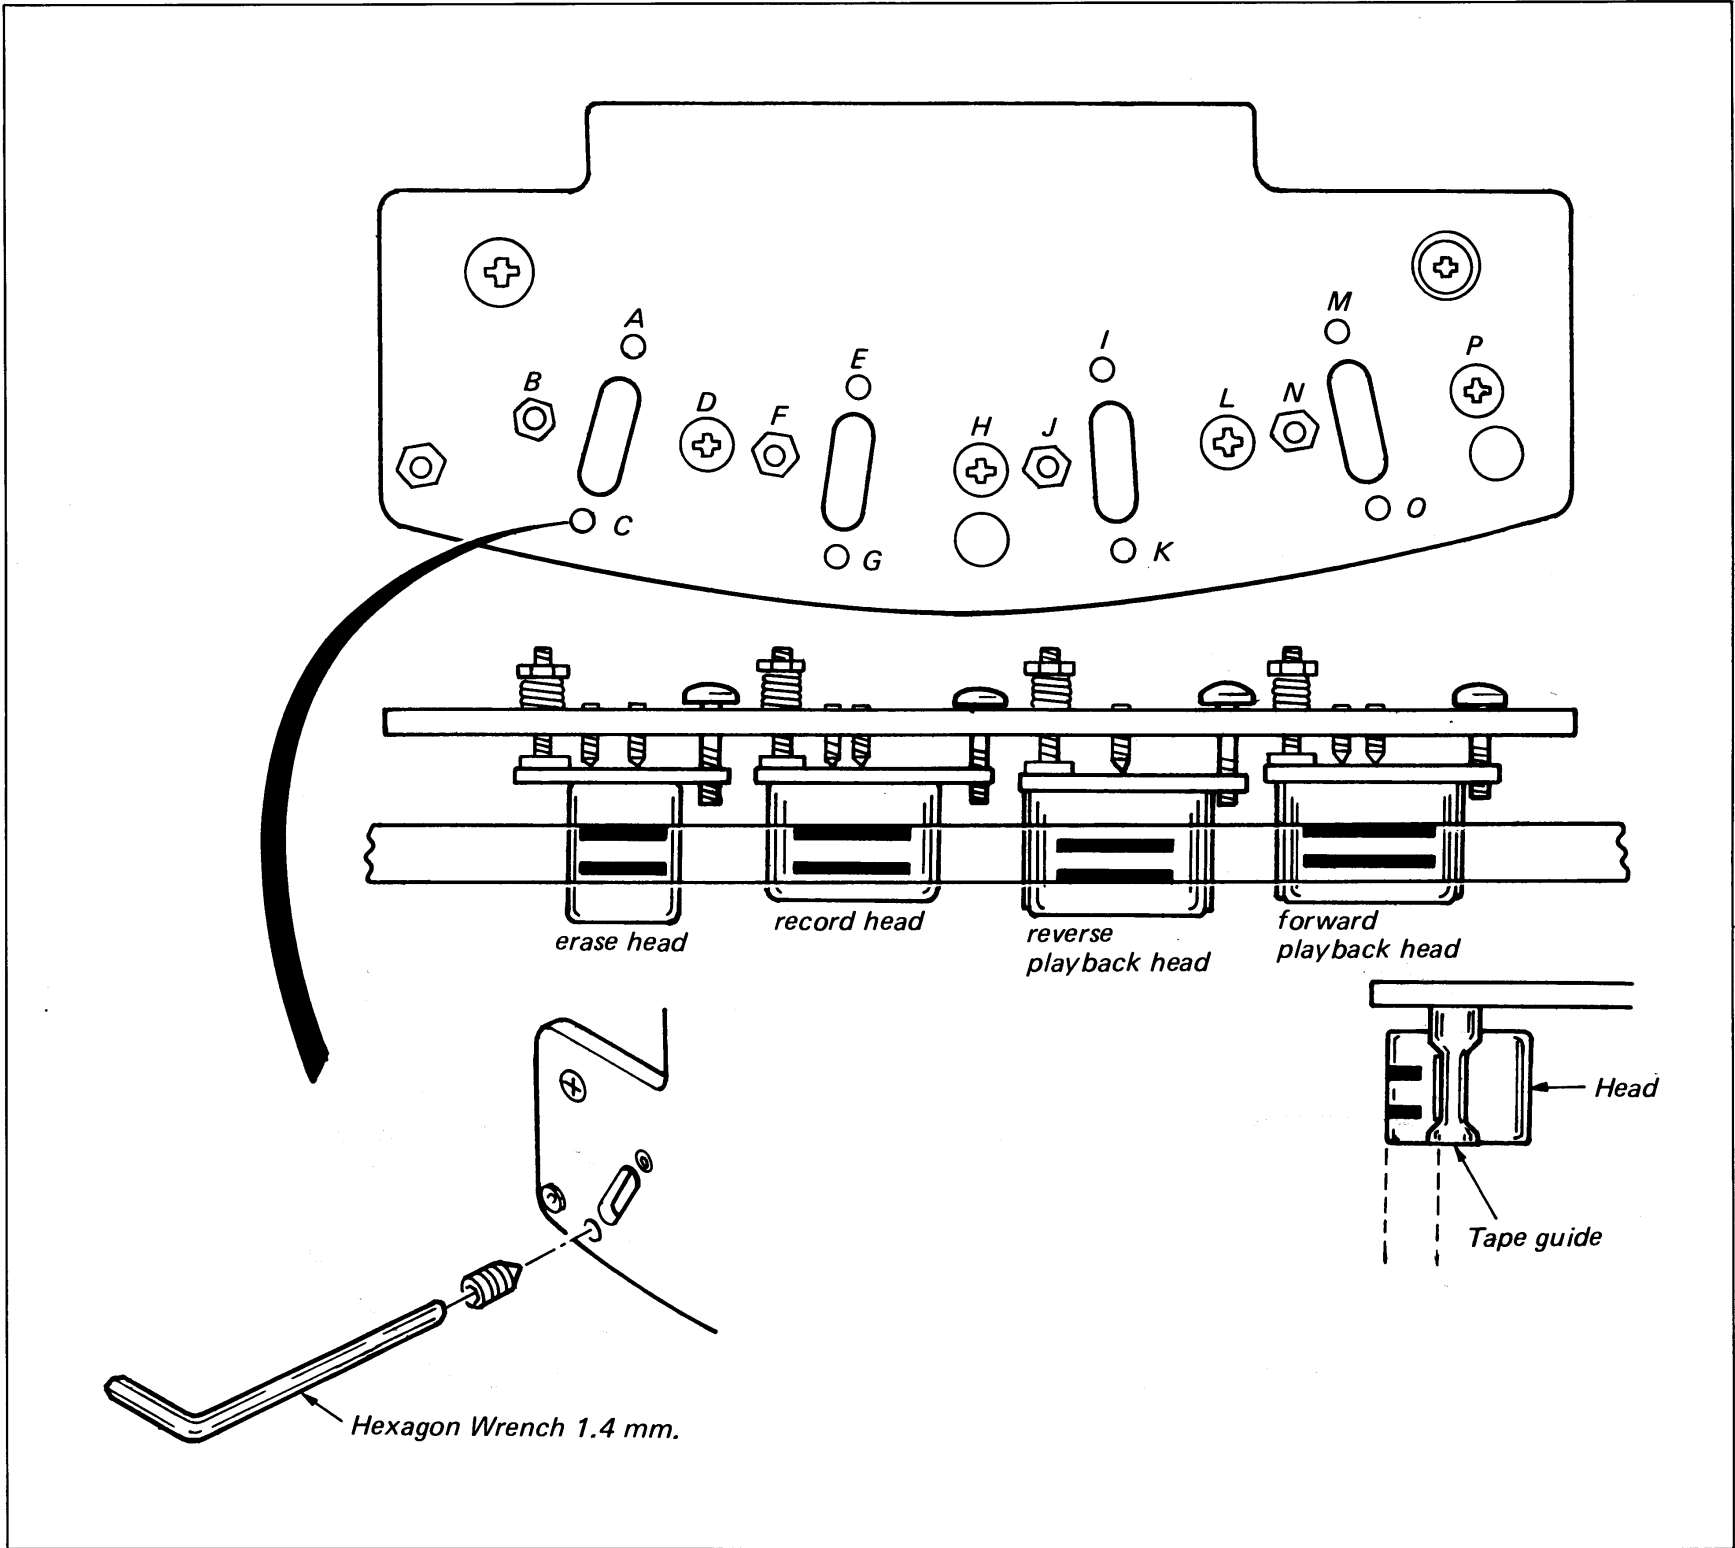

Fig. 4-4
4-7-1. Preliminary Adjustment (See Fig. 4-4)
Run a tape in the forward direction at 9.5 cm/sec (3 3/4 ips), adjust the screws as shown in Fig. 4-4 for the followings.
4-7-2. Forward Playback Head Adjustment (See Fig. 4-4)
In the playback of 700 Hz, adjust M, O, P, of Fig. 4-4 for the maximum indication at the V. T. V. M.
In the playback of 15 kHz, adjust P of Fig. 4-4 for the maximum indication at the V. T. V. M.
(See Fig. 4-4)**
- 1. Perform the adjustment as in "Forward Playback Head Adjustment". Adjust I, K, L, of Fig. 4-4 for tracking adjustment, and L of Fig. 4-4 for azimuth adjustment.
4-7-4. Recording Head Adjustment (See Fig. 4-4)
Adjust E, G, H, of Fig. 4-4 for the maximum indication at the V.T.V.M.
Change the output frequency to 15 kHz. Adjust H of Fig. 4-4 for the maximum indication at the V.T.V.M.
4-7-5. Erase Head Adjustment (See Fig. 4-4)
- 3) Adjust A, C, D, of Fig. 4-4 for the minimum indication at the V.T.V.M.